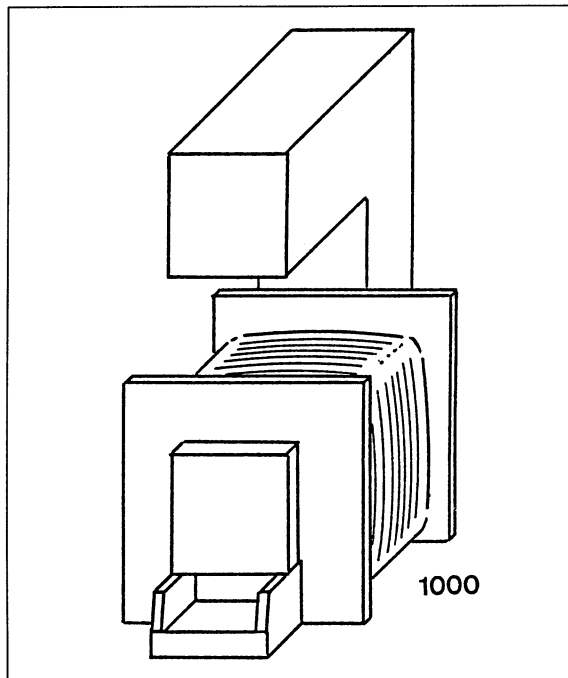
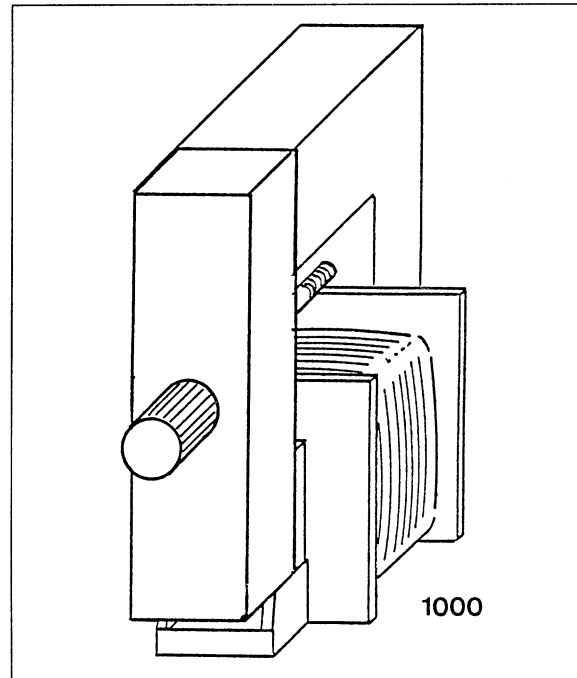

Fig. 2 Coil with U-core (vertical arrangement)
Fig. 3 Coil with U-core (vertical arrangement) and I-core mounted as yoke
- Slide the U-core into the coil as shown in Fig. 2.
9. Mount the I-core as a yoke with the bare side inward – as shown in Fig. 2 and Fig. 3 – and screw it securely to the U-core.